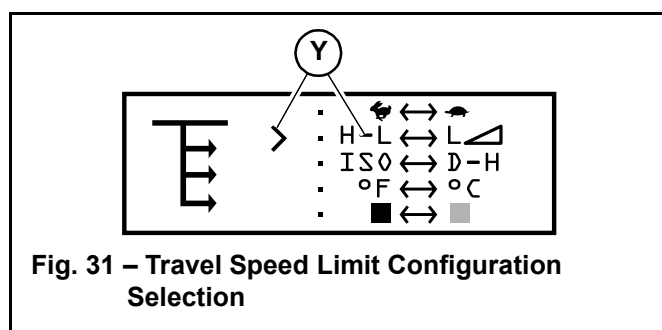

Fig. 31 – Travel Speed Limit Configuration Selection
2. Press and release the interface button until the selection caret points to the travel speed limit configuration selection (Y, Fig 31). Press and hold the interface button for 5 seconds.